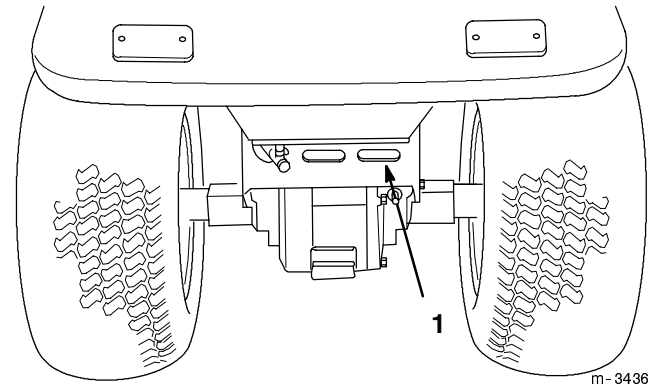

Figure 10
- The rear transaxle cover is an air intake area for cooling the transaxle. Clean debris from the rear transaxle cover before operating the tractor (Fig. 10).